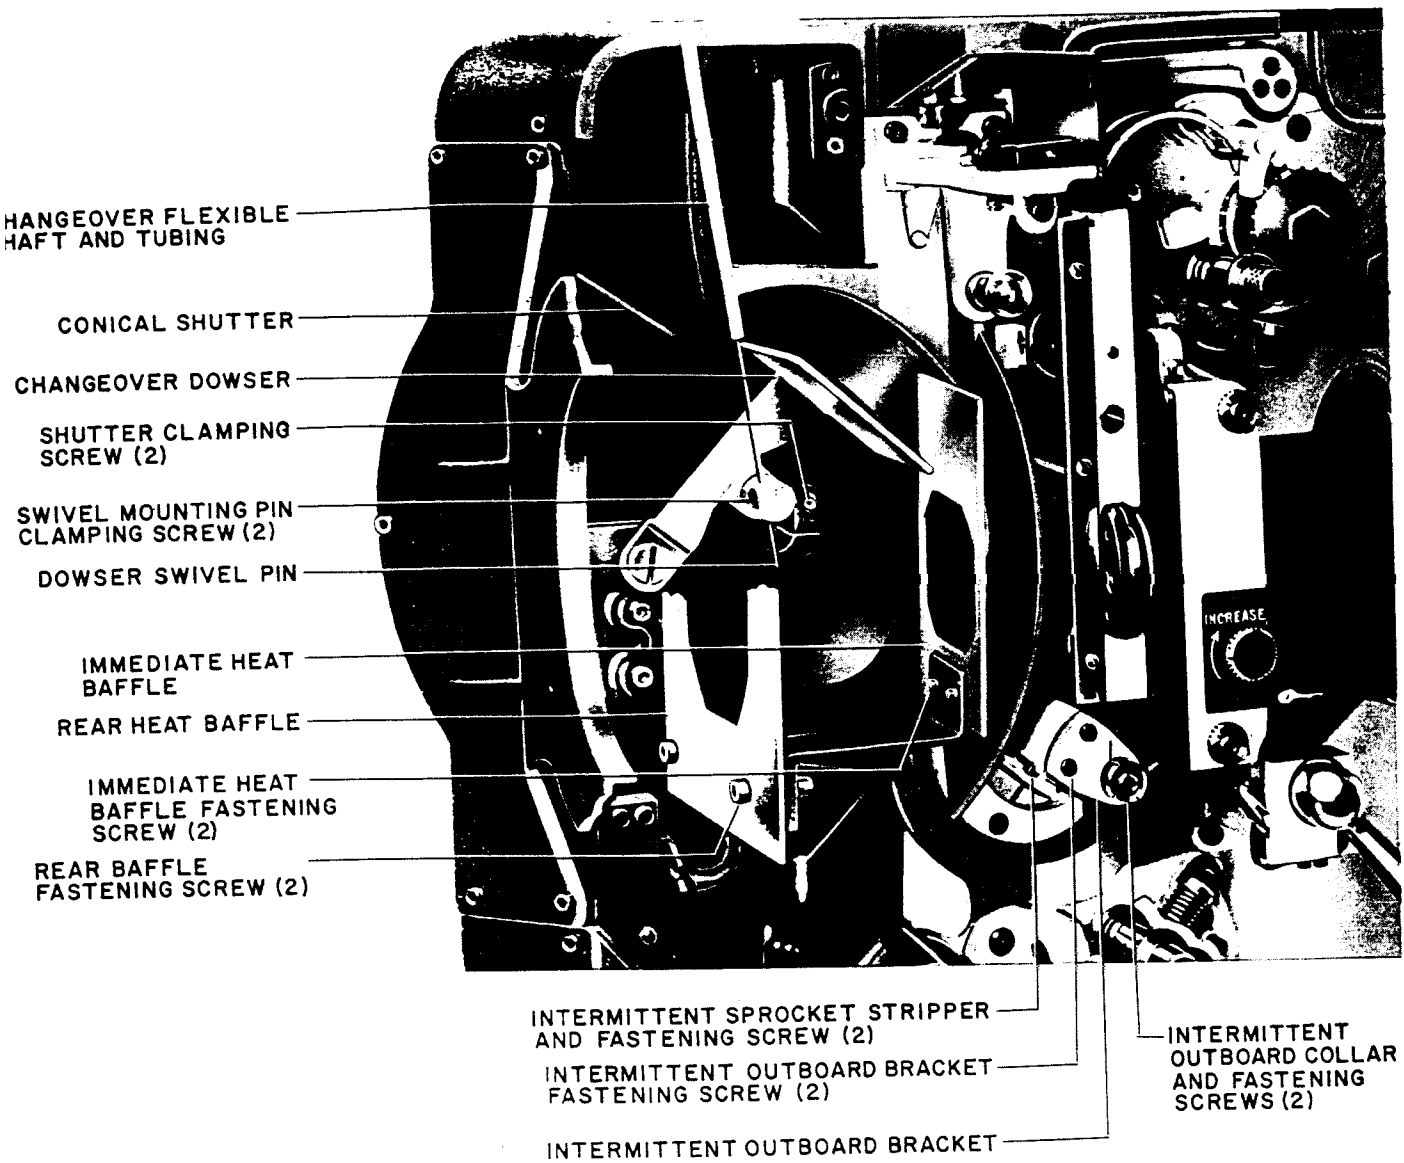

Figure 4-4
4. Film Trap Gate Operating Lever Adjustment (See figure 4-4.)
It is necessary that the reset button be depressed while the film trap is being installed. Otherwise, the fire shutter stop pin (figure 4-4) on the film trap will strike the fire shutter and make it inoperative until the film trap is properly installed.
2. With the fire shutter closed and against its stop on the rear of the film trap (figure 4-4), loosen the two fire shutter operating arm adjustment plate fastening screws until it just clears the top of the fire shutter operating rod. Tighten the two fastening screws.
1. Framing Lamp Switch (See figure 4-4.)